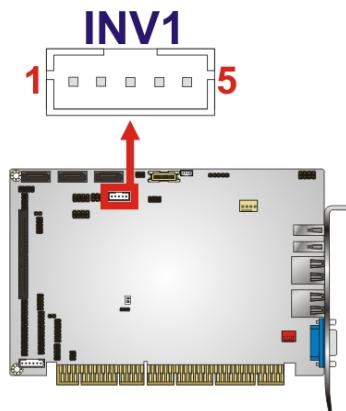

Figure 3-14: LCD Backlight Connector Location
- CN Location:** See **Figure 3-14**